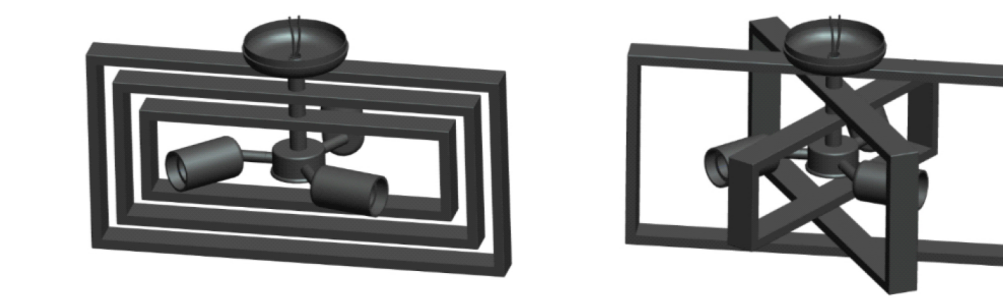

Fig 7.1
- 7.1 Take out the light assembly and rotate it as like the shape in Fig 7.1.